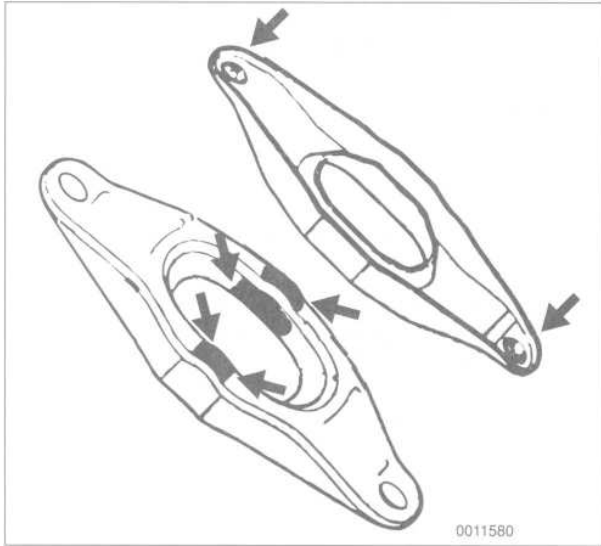

Fig. 7. Contact points on release lever to be greased (arrows).
12. Lightly grease release lever bearing contact points. See Fig. 7. Install release lever.